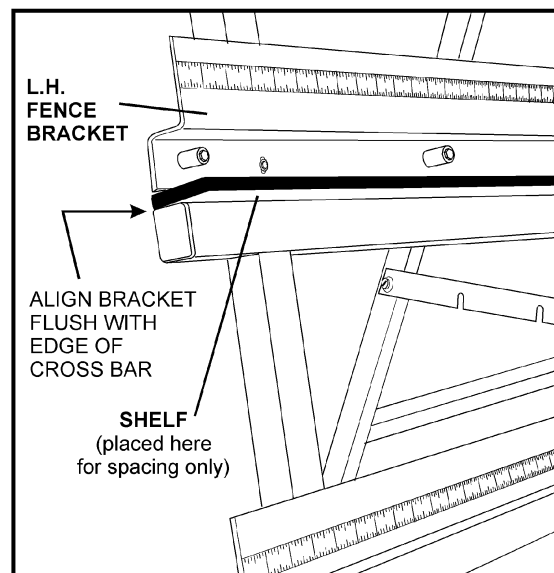

Figure 24
- On the left side of the panel saw, temporarily place the fence shelf on top of the horizontal cross member of the panel saw frame which is approximately 30" from the floor. See Figure 24. This will space the left hand fence bracket the correct distance off the horizontal cross member.